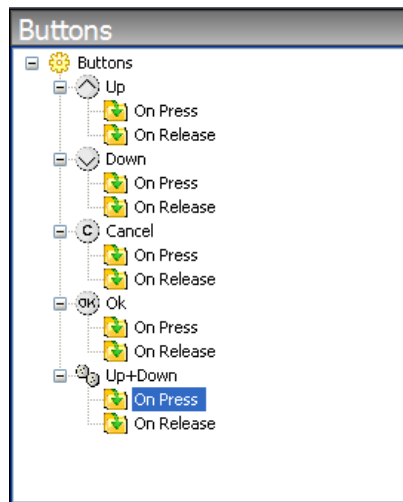

Figure 164: Add Multiple Button
3. Select the buttons you want to combine to associate a function and click OK. The multiple buttons appear in the Buttons tree (Figure 164).